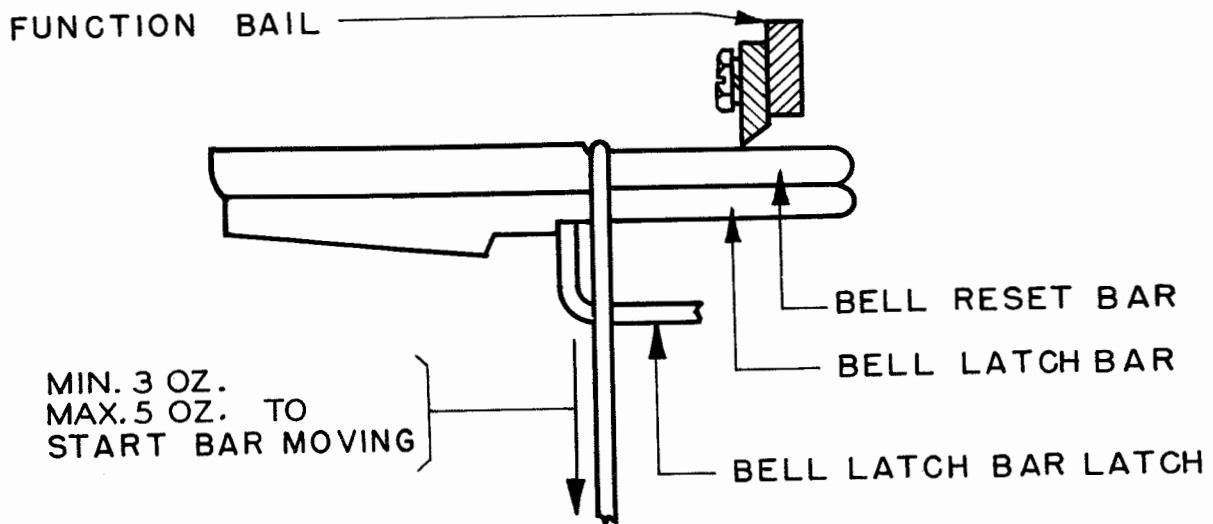

Figure 44
2.97 Signal-bell Reset-bar Spring: The signal-bell reset-bar spring should have a tension of minimum 3 ounces, maximum 5 ounces when the mainshaft has been rotated until the function bail is in its extreme forward position and the front shoulder of the bell-latchbar is resting against the latch. See Figure 44.